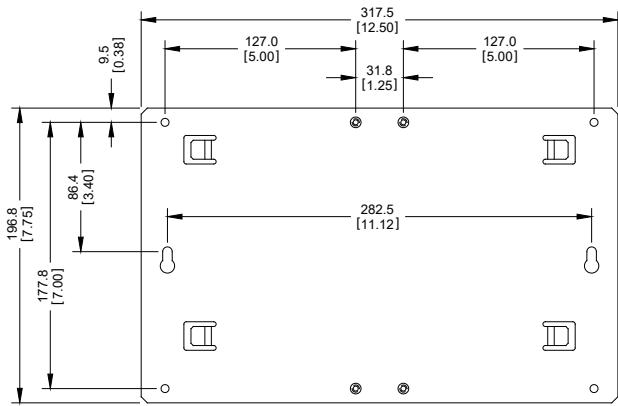

Figure 5. Panel Dimensions
- Main unit with expansion rack mounted on adaptor panel.** Position as desired on the enclosure mounting plate and locate mounting holes on the plate using the FB107 assembly as a template. See Figure 5 for adaptor panel dimensions. Drill and tap mounting holes in the plate with an 8-32 UNC thread tap. Position the FB107 assembly over the tapped locations and attach to the plate with the four 8-32 UNC x 1.00 inch-long screws provided. Torque the four mounting screws to approximately 1.1 to 1.4 N·m.